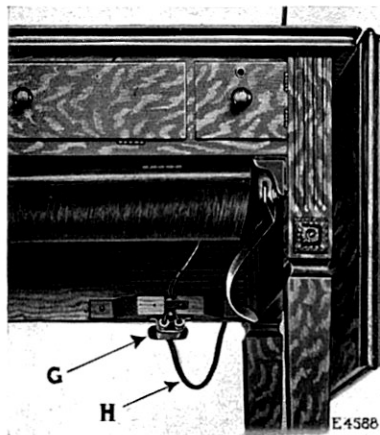
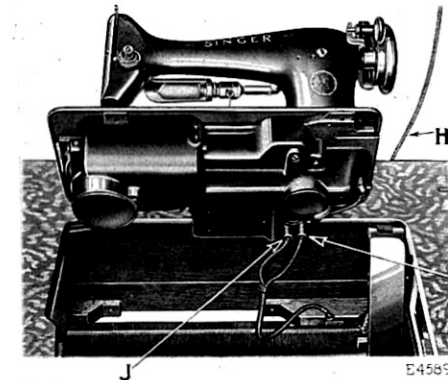

FIG. 6. ELECTRICAL CONNECTION
FIG. 7. ELECTRICAL CONNECTIONS
Attach the plug at one end of the long electric cord (H, Figs. 6 and 7) furnished with the machine, to the nearest electric light
socket and push the terminal block (G, Fig. 6) at the other end of the cord as far as it will go on the two connectors underneath the table, as shown in Fig. 6.
See that the two sockets (I and J, Fig. 7) at the ends of the two short electric cords of the stand are pushed as far as they
will go on the two connectors on the underside of the bed of the machine, as shown in Fig. 7.
6. See that the two sockets (I and J, Fig. 7, page 7) fit tightly on the two connectors on the underside of the bed of the machine, and that the terminal block (G, Fig. 6, page 6) fits tightly on the two connectors underneath the table. If the sockets or terminal block fit loosely, slightly spread apart the two prongs of each connector, so as to make them fit tightly in the sockets or terminal block.